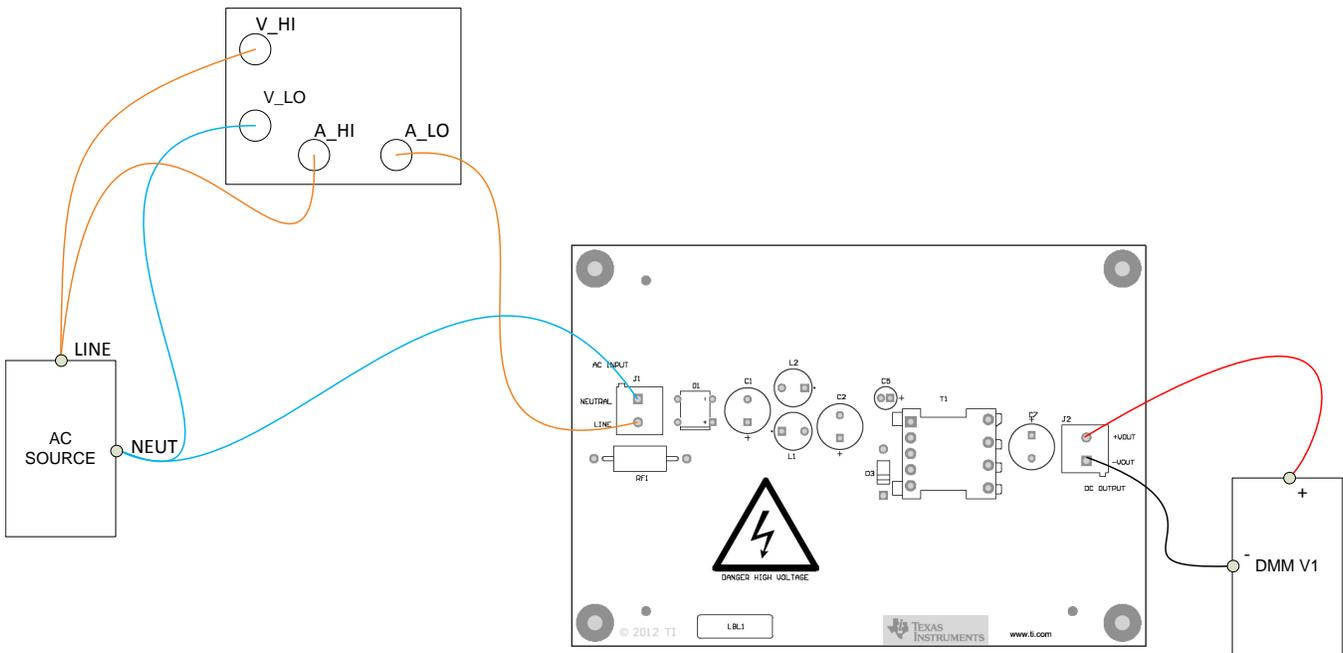
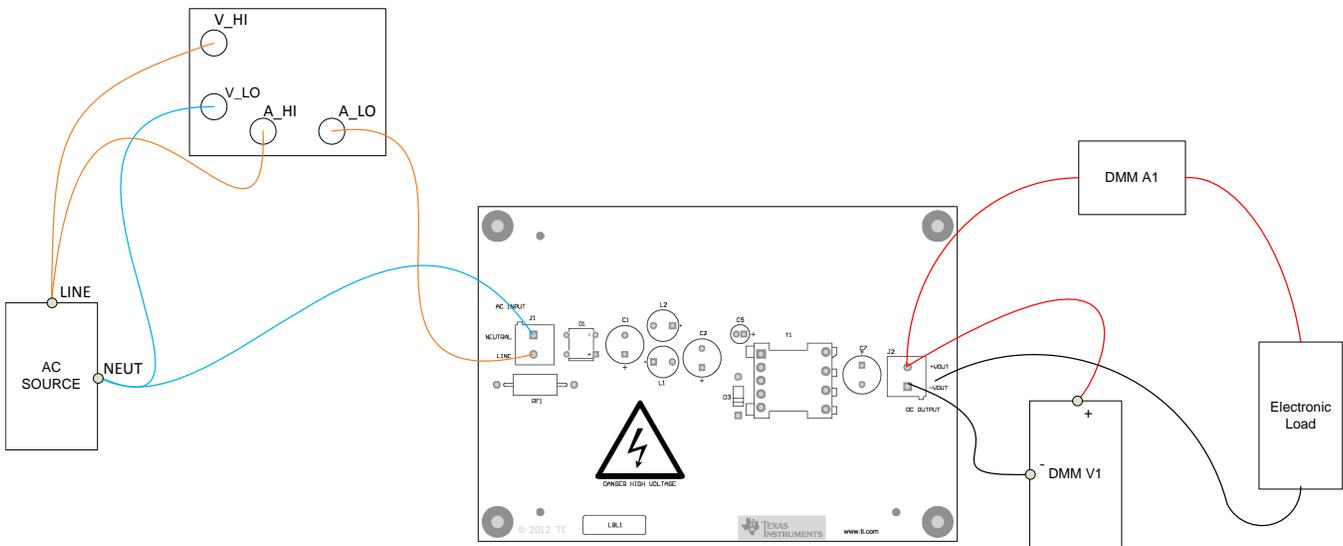

Figure 3. UCC28911EVM-718 Recommended Test Set Up without a Load
Figure 4. UCC28911EVM-718 Recommended Test Set Up With a Load
Figure 3 shows the equipment set up when measuring the input power consumption during no load. During the no-load test, the power analyzer should be set for long averaging in order to include several cycles of operation and an appropriate current scale factor should be used. Figure 4 shows the basic test set up recommended to evaluate the UCC28911EVM-718 with a load.
See Figure 3 and Figure 4 for recommended test set ups.
**AC Input Source:** The input source shall be an isolated variable AC source capable of supplying between  $85 V_{RMS}$  and  $265 V_{RMS}$  at no less than 15 W and connected as shown in Figure 3 and Figure 4. For accurate efficiency calculations, a power meter should be inserted between the AC source and the EVM. For highest accuracy, connect the voltage terminals of the power meter directly across the power source.
**Load:** For the output load, a programmable electronic load set to constant current mode and capable of sinking 0 to  $1.5 A_{DC}$  at  $10 V_{DC}$  shall be used. For highest accuracy,  $V_{OUT}$  can be monitored by connecting a DC voltmeter, DMM V1, directly across the  $V_{OUT}$  and  $-V_{OUT}$  terminals as shown in Figure 3 and Figure 4. A DC current meter, DMM A1, should be placed in series with the electronic load for accurate output current measurements.
- (b) For operation with a load, as shown in Figure 4, set the electronic load to constant resistance mode.
1. Use the test set up shown in Figure 3.
- (a) Use the test set up shown in Figure 4.